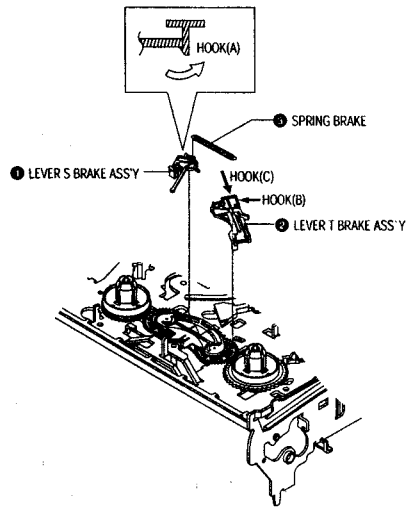

Fig. 2-25 Lever Brake S, T Ass'y Removal
- 1) Remove the Lever Brake S Ass'y (Refer to Fig 2-25).
- 2) Remove the Spring Tension Lever ①.
- 4) Lift the Lever Tension Ass'y ② & Band brake Ass'y ③.
- 1) Release the Hook [A] and the Hook [B], [C] in the direction of arrow as shown in Fig 2-25.
- 2) Lift the Lever S, T Brake Ass'y ①, ② with spring brake ③.